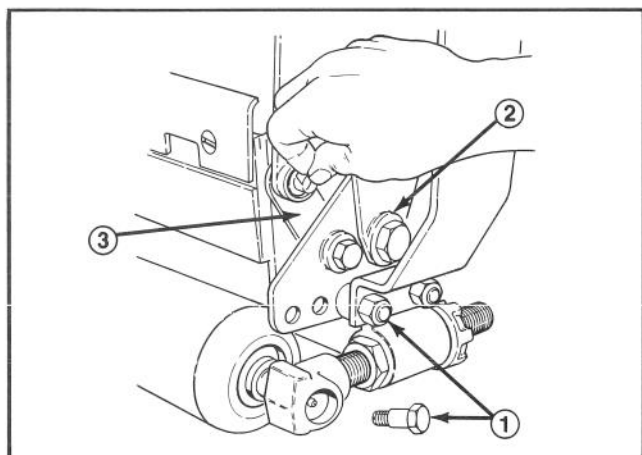

Figure 24
1. Remove the shoulder bolts, bushings and spacers from each end of the unit and remove the bedbar/bedknife assembly (Fig. 24).
2. Remove the mounting screws for the bedknife and separate the bedknife from the bar (Fig. 24). Discard the screws.